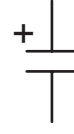

Fig. 6.1
- 6 Fig. 6.1 shows an electric scooter.